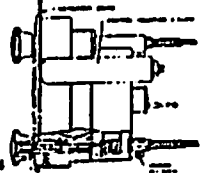

FIGURE 4
- 2 Fit over the control head in place in means of the "U" clamp and nuts. (See Figure 4)